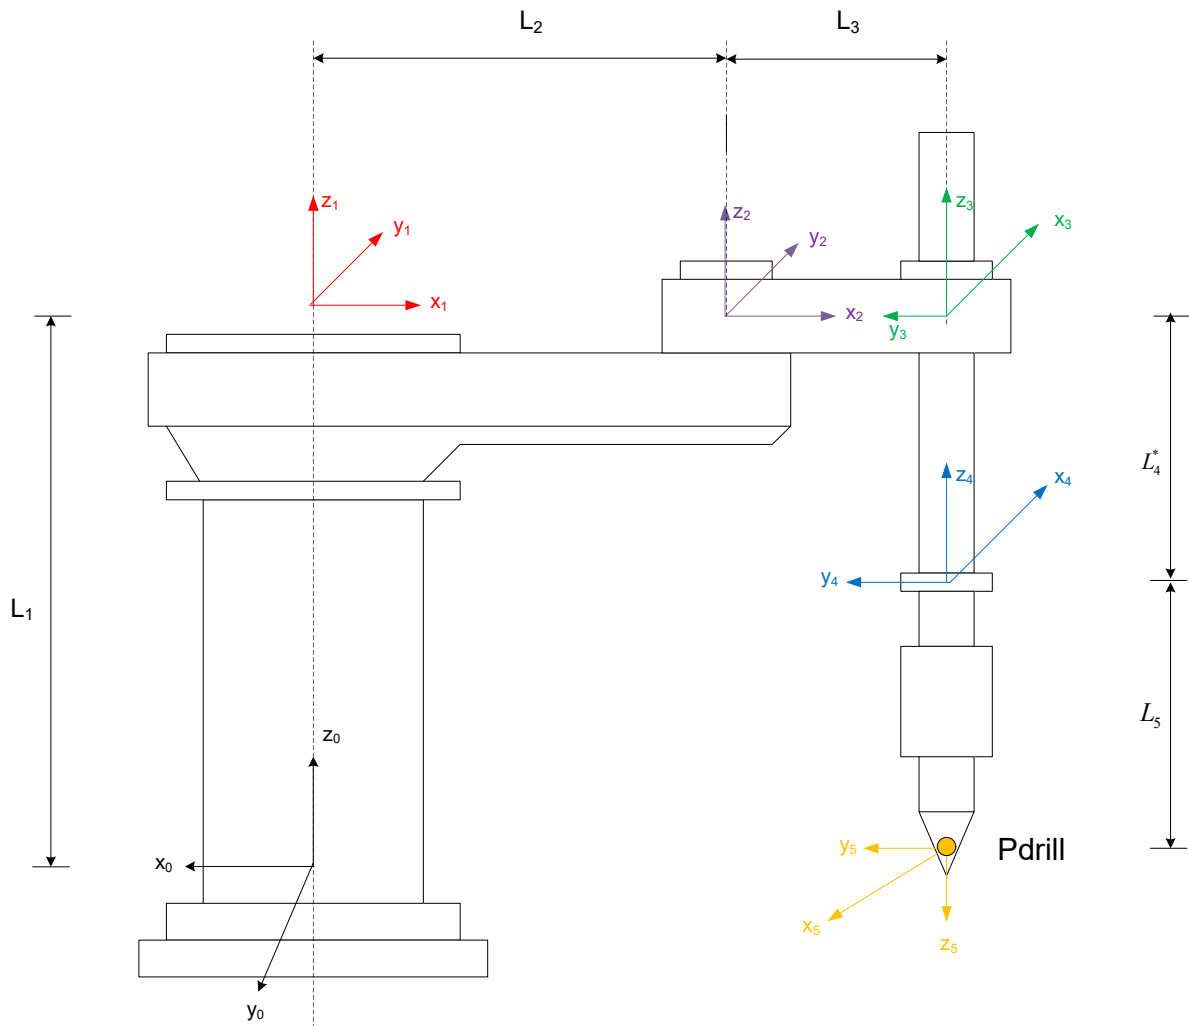

Figure 1.1: The VME robot.
1. (30 Minute). Consider the VME robot shown in Figure 1.1 below.